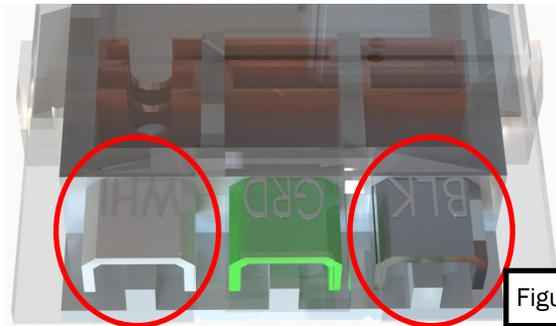

Figure 12
- Using a multi-meter, test for continuity across the AC high-limit thermostat by placing one lead on the unit-side Molex connection as shown in figure 12.